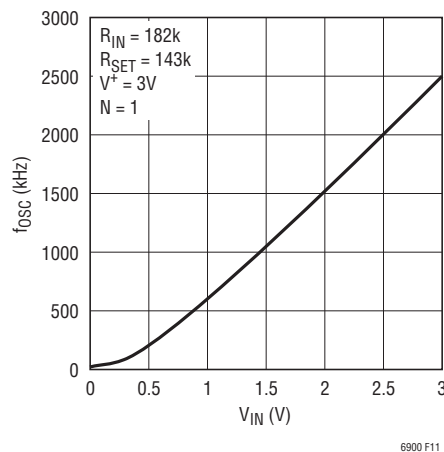

Figure 11. Output Frequency vs Input Voltage
Equation (2) yields $R_{IN}/R_{SET} = 1.273$ and Equation (3) yields $R_{SET} = 142.8\text{k}$. $R_{IN} = 1.273R_{SET} = 181.8\text{k}$. For standard resistor values, use $R_{SET} = 143\text{k}$ (1%) and $R_{IN} = 182\text{k}$ (1%). Figure 11 shows the measured f_{OSC} vs V_{IN} . For V_{IN} higher than 1.5V, the VCO is quite linear; nonlinearities occur when V_{IN} becomes smaller than 1V, although the VCO remains monotonic.